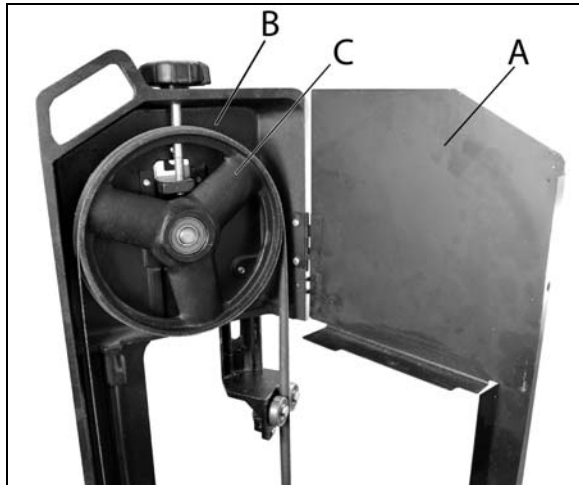
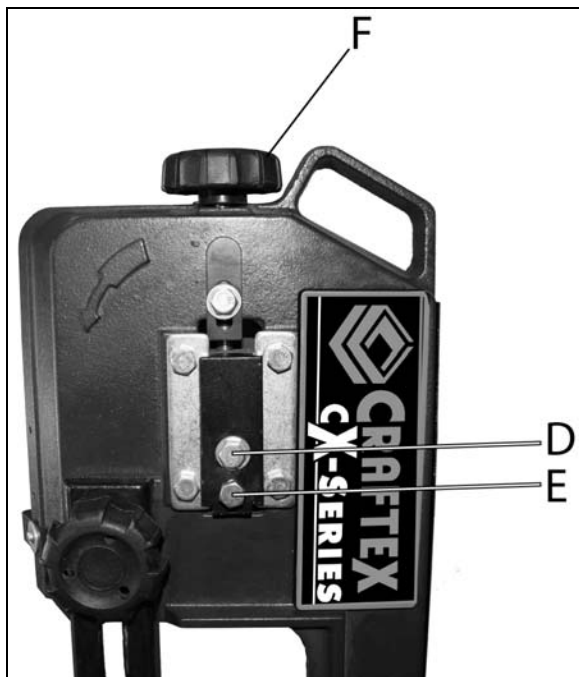

Figure 2
Figure 3
1. Place the saw arm in the vertical position and open the wheel cover (A) (see Fig.2)
2. Turn on the band-saw. The blade is tracking properly when the back of the blade (B) is just touching the edge of the wheel flange (C). The back of the blade should not rub against the flange.
4. Loosen screw (D) (see Fig.3) to a point where it is loose but snug.
5. With the band-saw running, turn the adjusting screw (E) until the blade is tracking properly making certain the blade tension is maintained by turning the blade tension knob (F). The blade is tracking properly when the back of the blade (B) is just touching the edge of the wheel flange.
6. Tighten screw (D) (see Fig.3) when the adjustment is complete.